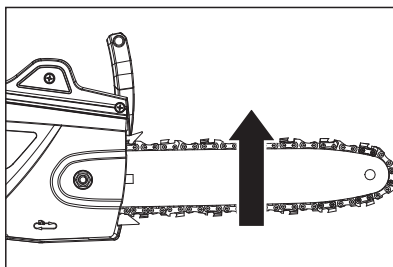

Fig. 2a
- 2). Lift up the tip of the guide bar (4) and keep it there as you adjust the tension (Fig. 2a).